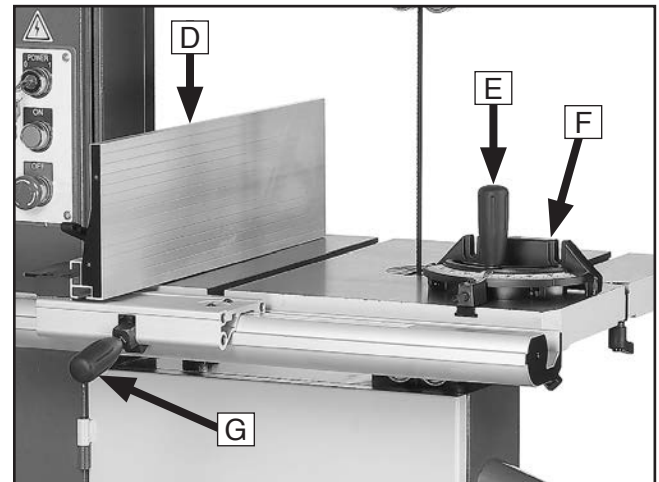
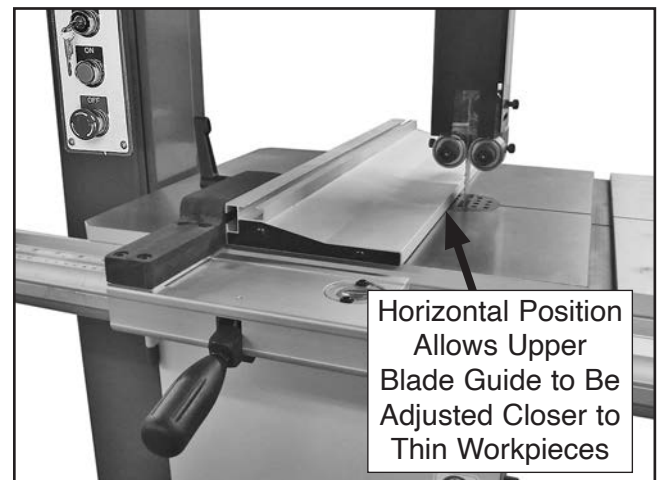

Figure 2. Fence and miter gauge controls.
Figure 3. Fence mounted in horizontal position.
- D. Fence:** Used for ripping or resawing. Distance from blade determines width of cut. Can be used in vertical position (as shown in **Figure 2**) for normal workpieces, or in horizontal position (as shown in **Figure 3**) for thin workpieces.